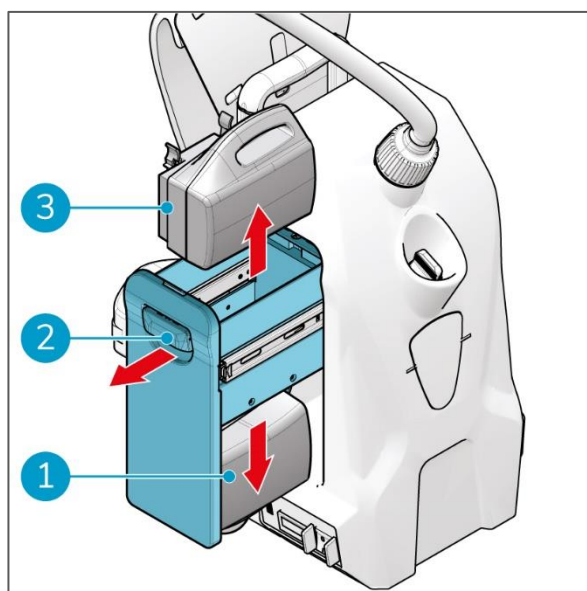

Figure 20
4. Open the battery holder (Figure 20, pos 2) at the side of the i-cover 2.5.
5. Remove the blue coded battery from the blue battery slot at the top (Figure 20, pos 3).
6. Remove the gray coded battery (option) from the gray battery slot at the bottom (Figure 20, pos 1).
7. Close the battery holder (Figure 20, pos 2).